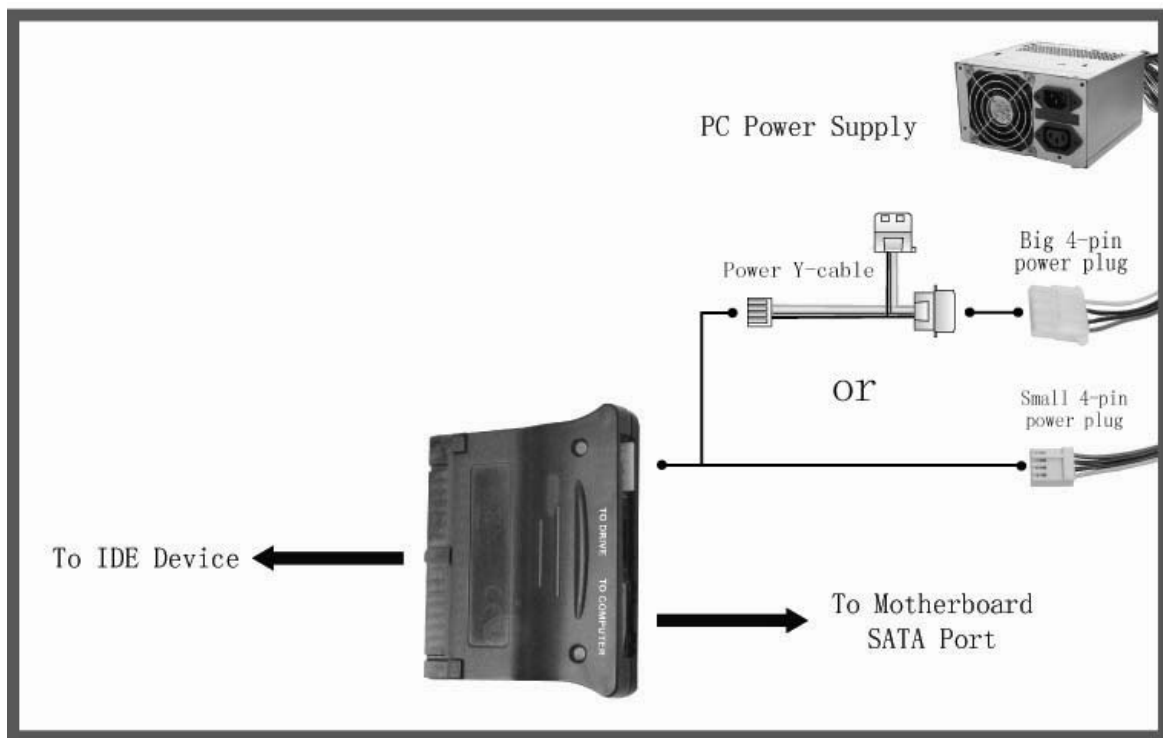

Figure 1: IDE Device to motherboard's SATA Port connection
3. Connects your IDE device (such as IDE hard drive or optical drive) to the IDE interface of the product (Figure 1).
4. Connects the Yellow SATA connector on the adapter to the SATA port on the motherboard using a SATA cable (Figure 1)